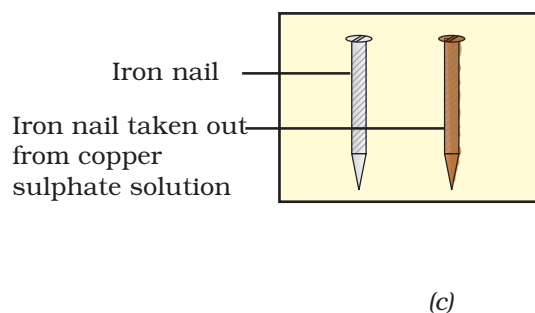

Fig. 1.1 : (a) Iron nail dipped in copper sulphate solution; and (b) Iron nails and copper sulphate solutions are compared
- Tie one iron nail with a thread and immerse it carefully in copper sulphate solution in test tube B through a bored cork [as shown in the Fig 1.1(a)] for about 15 minutes [Fig. 1.1(a)]. Keep the another iron nail separately for comparison afterwards.
- Compare the intensity of blue colour of copper sulphate solution before and after the experiment in tubes A and B, and also compare the colour of iron nail dipped in copper sulphate solution with the one kept separately [Fig. 1.1(b) and (c)]. Record your observations.